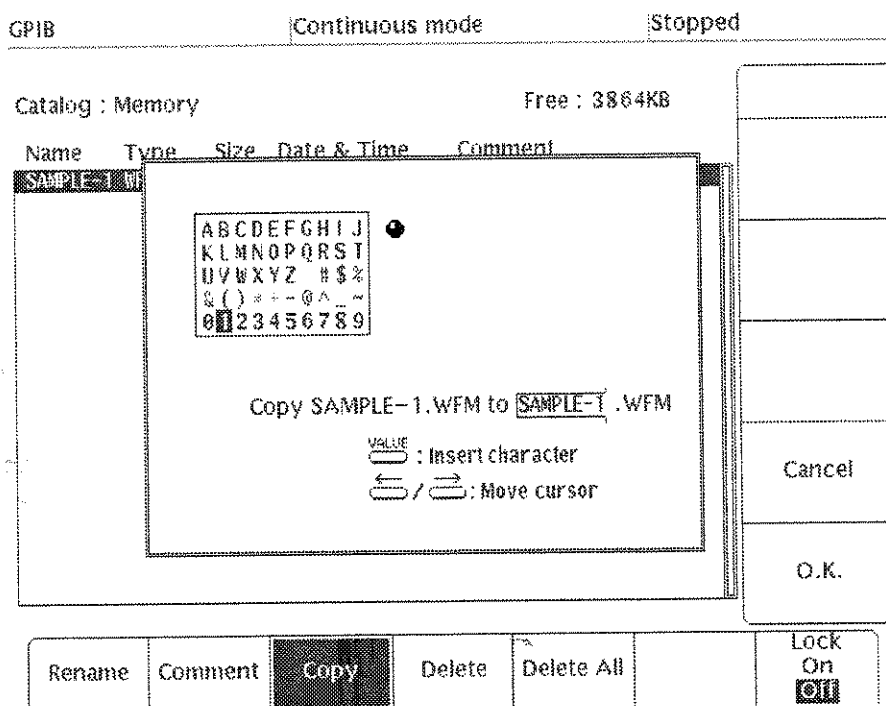

Figure 2-31: Entering a Name for the Copied File
- Step 1:** In the initial **EDIT** menu, select **Copy** bottom menu. The display used to enter the name of the copy of the file will appear, as shown in Figure 2-31.